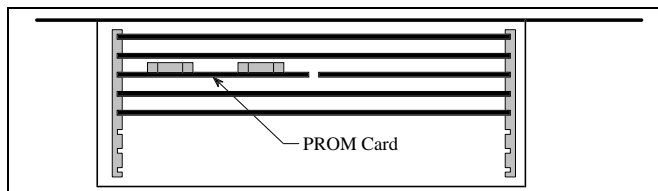

Figure 6 - Location of PROM Card in Older Computer
4. Remove the PROM Card (see Figure 6) by pulling on the two tabs fastened to the front edge of the card. (This is a three-handed operation - observe standard handling practices for static sensitive components.)